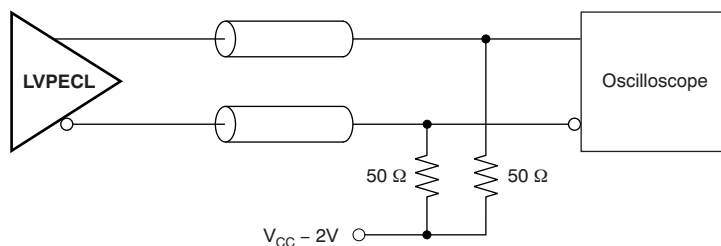

Figure 9. LVPECL DC Configuration During Device Test
(2) Figure 9 and Figure 10 show DC and AC test setups, respectively. Jitter measurements made using 25-MHz quartz crystal inches.